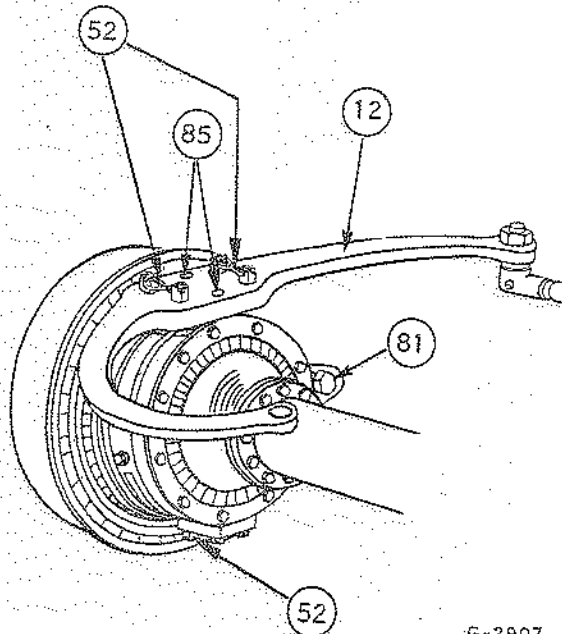

Fig. 6 - Right hand front wheel
3. Remove the locking wires from the slotted nuts to the top and bottom of the tracta housing outer (Fig. 6).
4. Remove the four slotted nuts securing the steering arm. The steering arm is then removed, using two set screws (3/8 UNC x 2" long) in the extractor holes provided (Fig. 6).
8. The bottom three slotted nuts are tightened to 90 ft. lbs. torque and the three lock-wired together (Fig. 6).
9. The top four slotted nuts are tightened in stages of 90 ft. lbs. torque, checking at each increment, that the king pin bearings have not excessive preload. The correct preload is obtained using a spring balance on the steering arm. A force of 6-10 lbs. is required on the end of the track rod arm to turn the outer tracta housing. This is adjusted by adding or removing .005" shims from the stack. Note that the torque measurements with the spring balance are done WITHOUT the rubber oil seal and retaining rings assembled. After the preload is set correctly, the four slotted nuts are tightened to 90 ft. lbs. tension and lock-wired in pairs (Fig. 6).